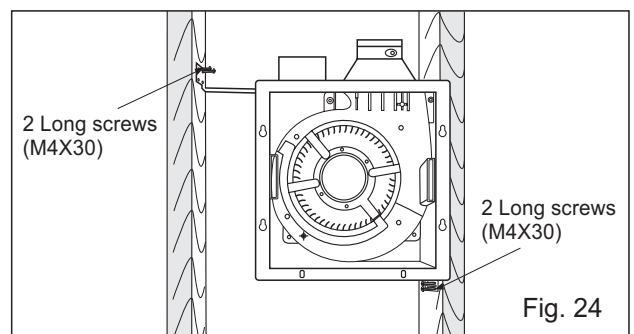

Fig. 24
5. Secure the fan body to the studs by using long screws (M4X30) (refer to step 5 to step 7 of installation II of page 9). (Fig. 24)